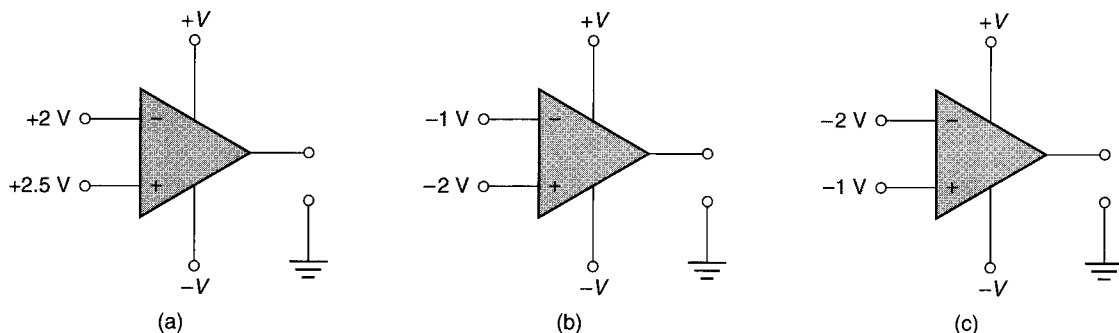

FIGURE 15.50
1. Determine the output polarity for each of the op-amps in Figure 15.50.